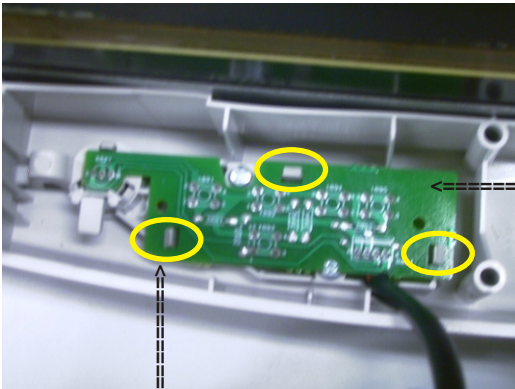

Fig. 19
- Release 3 plastic claws as shown in Fig. 19.